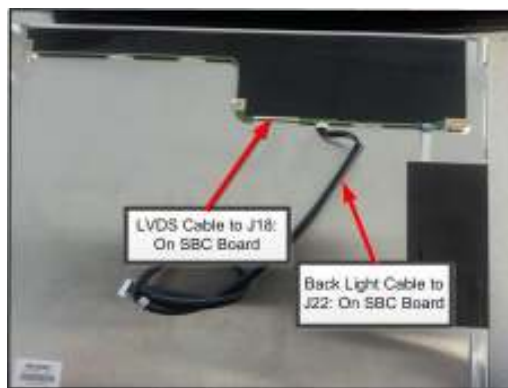

Figure 6 - LCD Backside View
- 9) Bring the new LVDS cable and backlight cable through to the front of the chassis. Connect the cables to the rear of the LCD screen as shown in Figure 6.